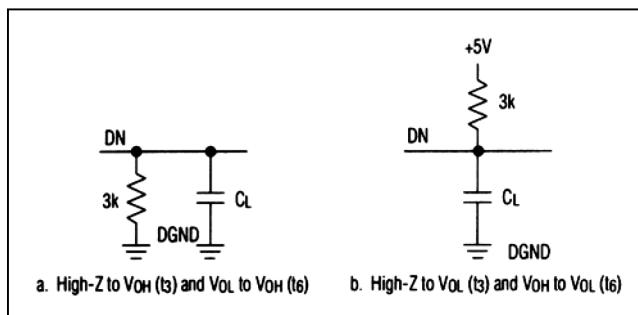

Figure 1. Load Circuits for Access Time
**Note 1:** VDD = +5V, VSS = -12V, 1 LSB = FS/4096. Performance over power-supply tolerance is guaranteed by power-supply rejection test.**Note 2:** Guaranteed by design.**Note 3:** All inputs are 0 to +5V swing with tr = tf = 5ns (10% to 90% of +5V) and timed from a voltage level of +1.6V.**Note 4:** t3 and t6 are measured with the load circuits of Figure 1 and defined as the time required for an output to cross +0.8V or +2.4V.**Note 5:** t7 is defined as the time required for the data lines to change 0.5V when loaded with the circuit of Figure 2.**Note 6:** For predictable conversion times, RD to CLKIN falling edge must be outside this window. If t10 < 25ns, conversion will skip first falling CLKIN edge and start on second falling CLKIN edge. If t10 > 100ns, conversion will start on first falling CLKIN edge.